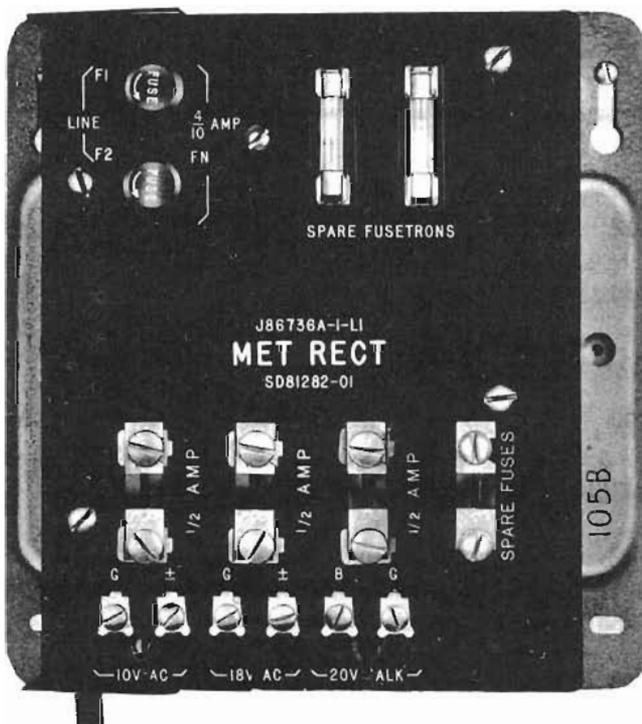

Fig. 7 – 101H Power Plant, Cover Removed
**6.02** This power plant is mounted in a 105-type apparatus box (see Fig. 7). Its output is listed in Table D.